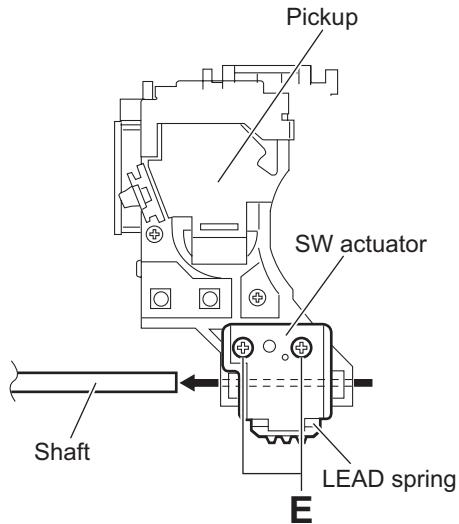

Fig.9
- (7) From the bottom side of the pickup, remove the two screws **E** attaching the SW actuator and LEAD spring. (See Fig.9.)
- (8) Pull the shaft out of the pickup. (See Fig.9.)
- (1) Attach the shaft, SW actuator and LEAD spring to the pickup up. (See Fig.9.)